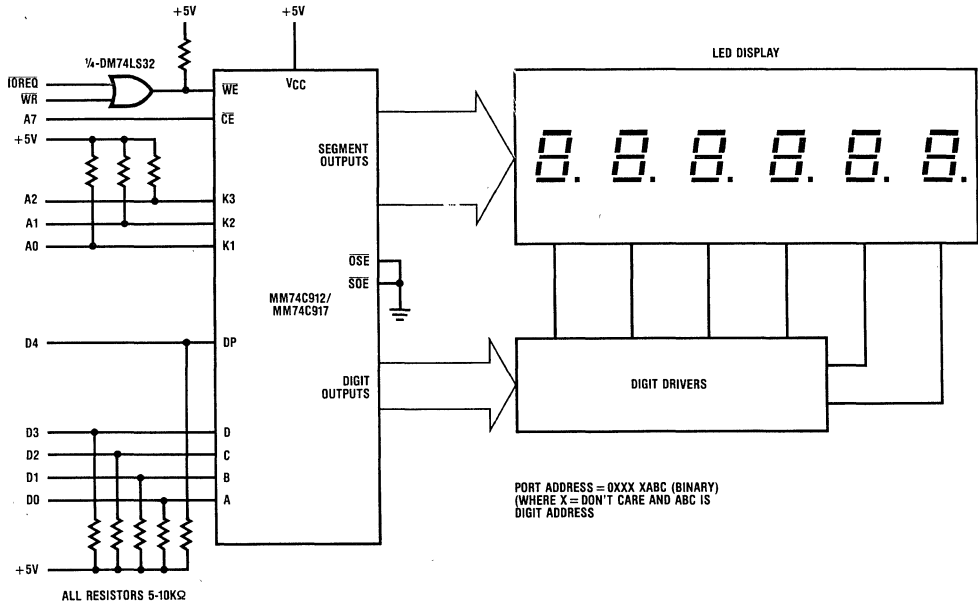

Figure 28. Z80 Interface to MM74C912/MM74C917
To connect these display controllers to the Z80 microprocessor, only a minor modification to the INS 8080 need be made. The Z80 control signals are slightly different from the INS8080. Instead of the INS8080 I/O write strobe, the Z80 has an I/O request line (IOREQ), which goes low to indicate an I/O port is to be accessed, and a write (WR) strobe which indicates that a memory or I/O write is to be done. By OR-ing, these together an equivalent I/OW signal is generated as shown in Figure 28.